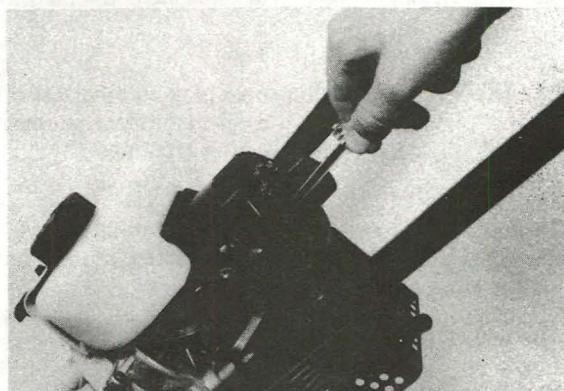

Fig. 31
1. Stop the engine. Remove the carburetor/air filter cover assembly (Fig. 31). Locate the adjusting screws (underneath the choke lever and air filter base).